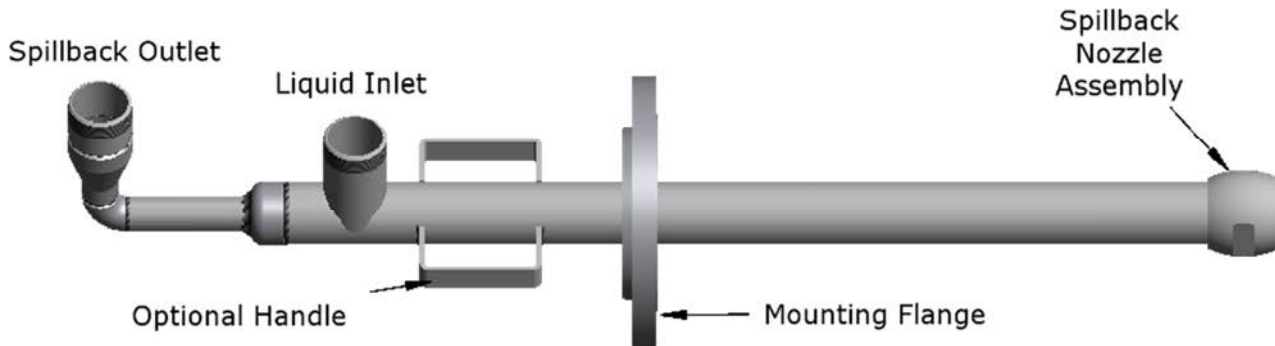

Figure 1: Basic Lance Configuration
- Figure 1: Basic Lance Configuration 6
BETE Spillback lances (See Figure 1) are intended to facilitate installation of spillback nozzles inside a process vessel, piping, or ducting. A spillback nozzle allows an operator to adjust flow into the system without changing the supply pressure to the lance. See Appendix A for theory of operation.
- **Liquid Inlet:** The connection receives fluid from a pump at a desired constant operating pressure. (See Figure 1)
- **Spillback Outlet:** The connection is for the diverted flow that is not sprayed into the process system. (See Figure 1)
- **Mounting Flange:** The mounting flange holds the lance in position in the system and seals the system, preventing contamination of the process and outside environment. (See Figure 1 & 5)
- **Handle:** The handle is to assist in moving the lance. (See Figure 1 and 5)